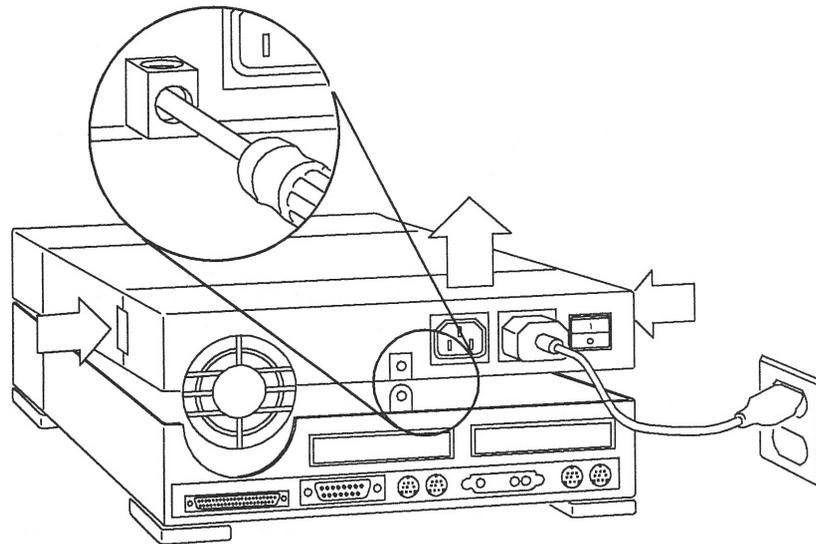

Figure 6-12 Attaching the Lock Block
5. Attach the lock block. Refer to Figure 6-12.